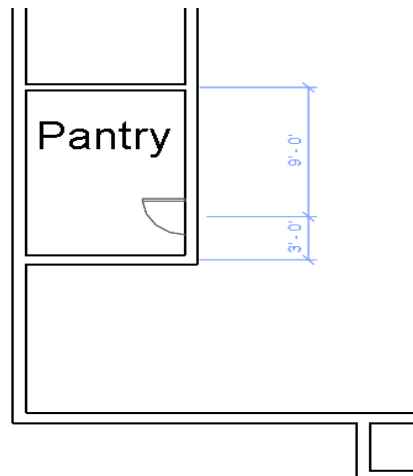

Figure 3-78 Specifying the location of the pantry door
- c. Add doors by invoking the **Door** tool and selecting the type of door from the **Type Selector** drop-down list, refer to Figures 3-78 through 3-81.
5. Move the cursor close to the interior wall of the pantry area to display the door symbol, as shown in Figure 3-78. Notice that as you move the cursor, the side of the door is changed. Click on the interior wall; the door is created at the specified location along Tag 1.